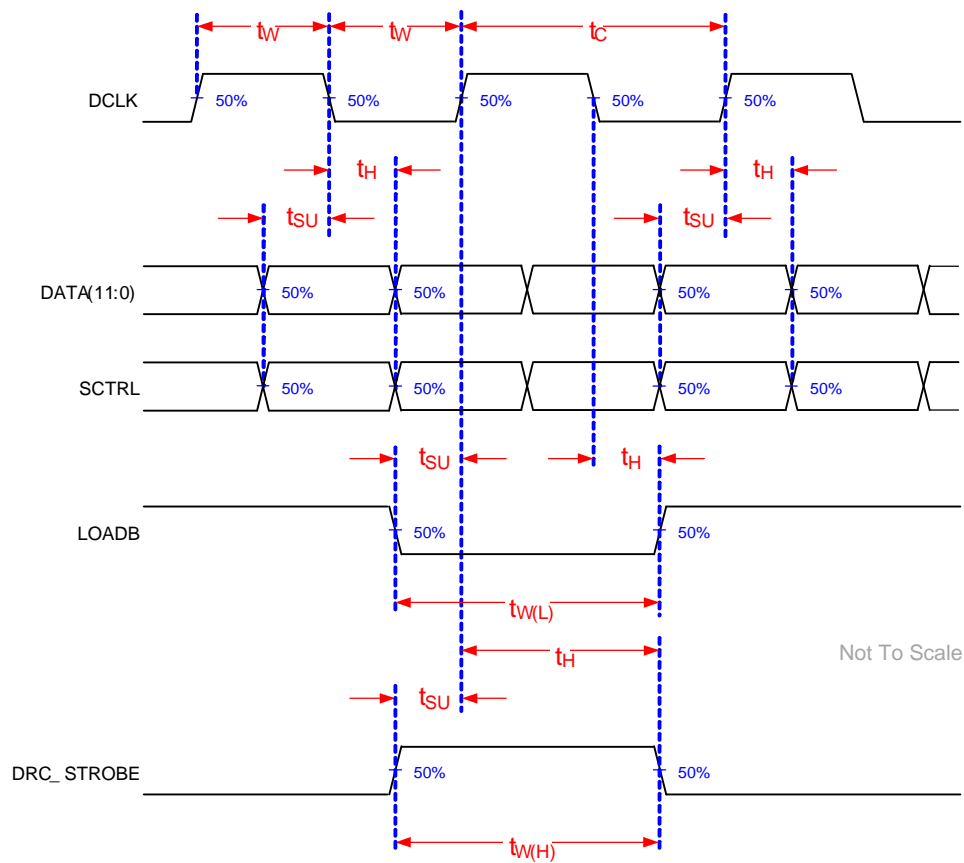

Figure 2. Switching Parameters 1
(1) Refer to Figure 2 and Figure 3.